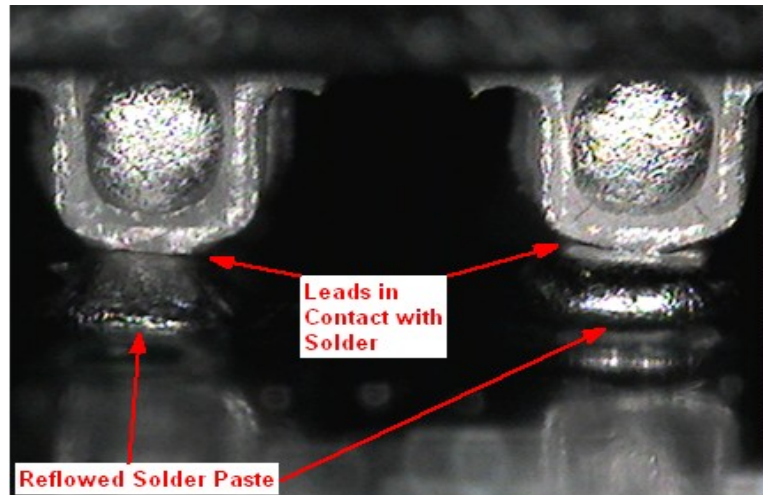
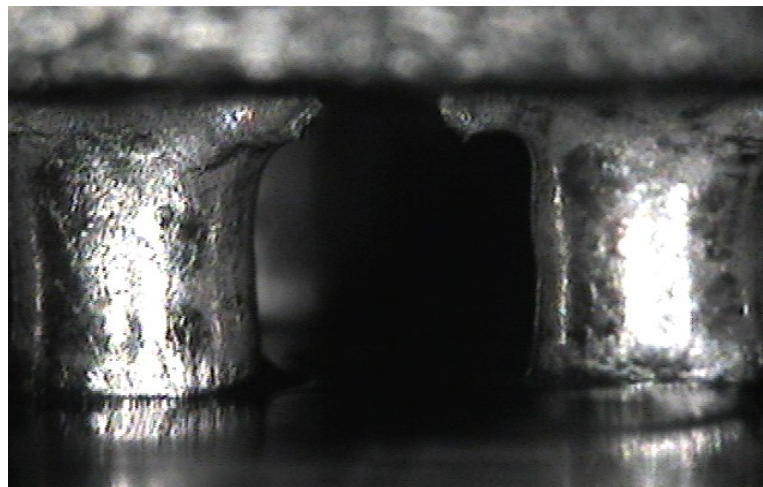

Fig. 10. Defective outer row solder joints. 外排不良焊锡点
Fig. 11. Outer row solder joints from **Fig. 10** reworked using a hand held hot-air system. 修正后的外排焊锡点。
NOTE: One of the most common issues customers face during the initial profiling stage is inadequate heating of the solder charges. **Fig. 10** below is an example of how the solder charges appear when they have not reached proper reflow temperatures. Even though the leads touched the solder printed on the board the wetting was not sufficient to form a good joint. When this is the result, the profile must be adjusted until the solder joints look like those in **Fig. 11**.
说明: 最普通的问题之一是在回流初始阶段, 客户面临着对Solder Charge预热不足。如下面**Fig. 10**是一个当Solder Charge没有达到正常的回流温度而出现不良品的例子。即使端子引线接触到了板上的熔化锡, 但这种回流不足以达到很好焊接。当出现这种不良时, 回流条件必须调整, 直到焊锡点如**Fig. 11**一样良好回流。
- The defects shown in **Fig. 10** below occurred on the outer row of contacts and were reworked using a Hakko FR-802 Hot-Air Rework System and 4.4mm nozzle. The liquid water-soluble flux was applied with a brush at the defect sites and hot-air was introduced by moving the nozzle in a circular motion so as not to damage the connector or board. With the addition of flux and the already present solder, wetting easily occurs and the terminations are soldered. **Fig. 11** shows the same two joints after they were reworked using this method. 下面 **Fig. 10** 所示的不良出现在触点的外排，可使用 Hakko FR-802 热风修正机和 4.4mm 的风嘴进行修正。用一把刷子蘸水溶性松香到不良区域，用热风机风嘴沿不良区域圈状移动着吹以避免损坏接头和电路板。在松香的帮助下，已有锡点的不良区域很容易就被焊接好。 **Fig. 11** 是 **Fig. 10** 用这种方法回流后的结果。